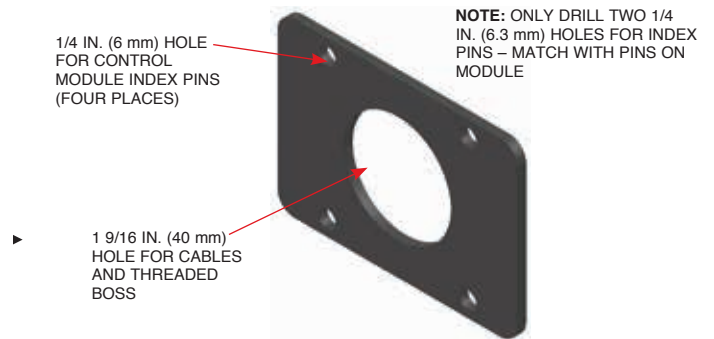

FIGURE 5-1
3. Drill three holes matching the correct diameter and layout for surface mounting, see Figure 5-1.